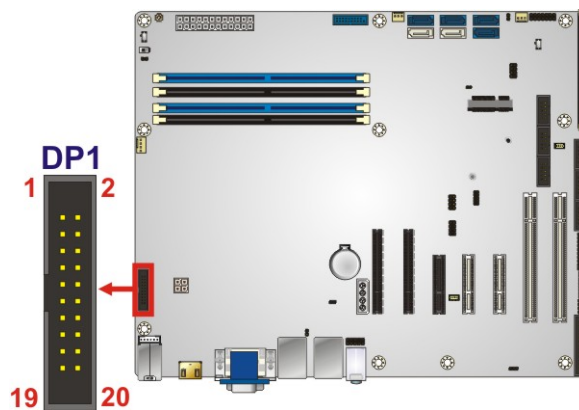

Figure 3-15: Internal DisplayPort Connector Location
- CN Location:** See **Figure 3-15**